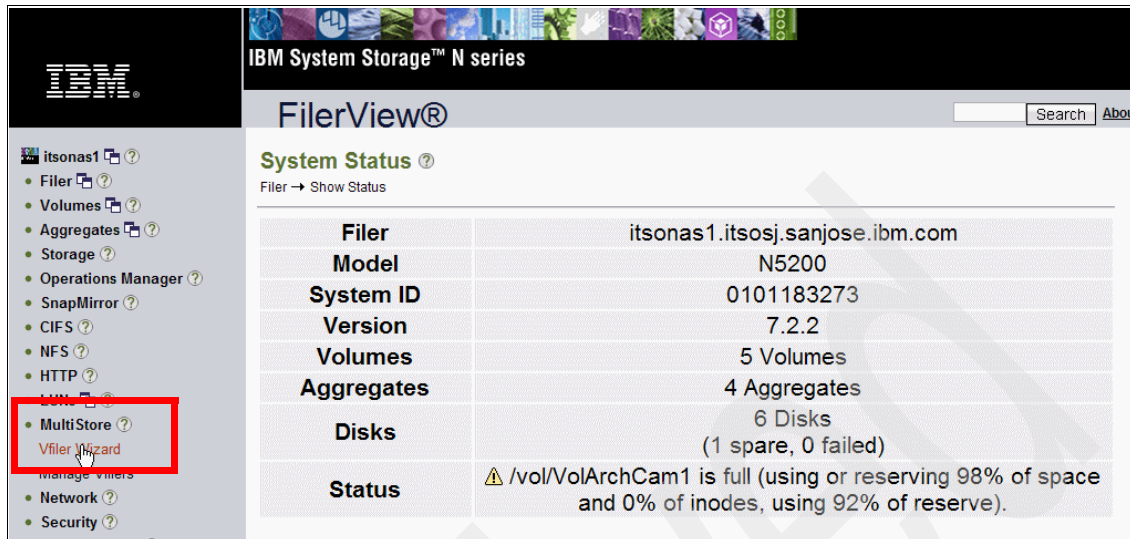

Figure 9-22 Configuring MultiStore
2. Click **MultiStore** → **Vfiler Wizard**, as shown in Figure 9-22 on page 314.